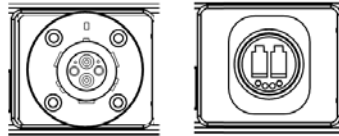

Fig. 3-20: MPS powered fiber connector options
- **7: Powered Fiber Optic Connection to CopperHead Camera Unit:** this removable plate can be equipped with a SMPTE 304M connector or a powered OpticalCON connector. See Figure 3-20.